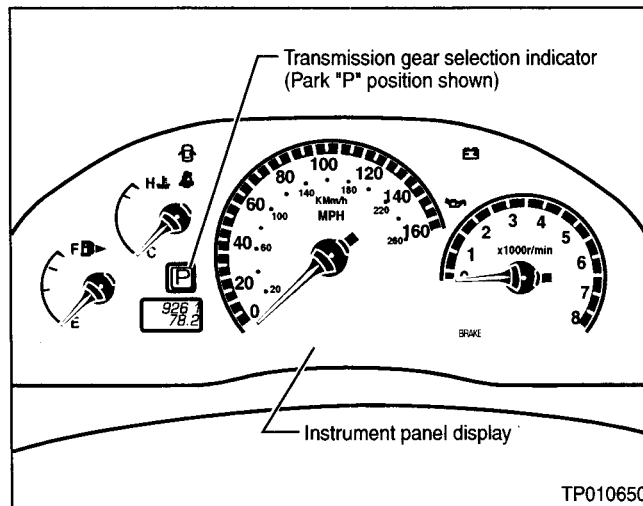

Figure 14
NOTE: During the next step you need to determine how long it takes for the "**P**" indicator (see Figure 14) to illuminate after the ignition key is turned to the **ON** position. It will either take one second or three seconds.
61. Depress the brake pedal and move the shift lever from “**P**” to “**R**” to “**N**” to “**D**”, making sure the indicator next to the speedometer (see Figure 14) correctly displays each selected shift lever position.
62. Move the shift lever back from “**D**” to “**N**” to “**R**” to “**P**”, making sure the indicator next to the speedometer (see Figure 14) correctly displays each selected shift lever position.